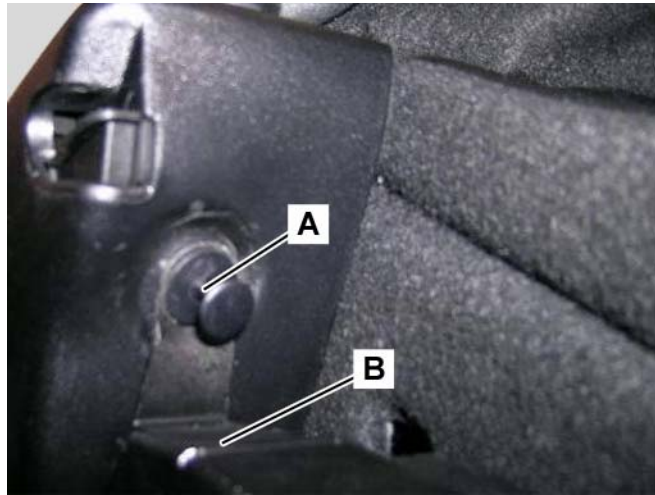

Figure 23
7. Fasten the SDARS bracket (B, Figure 23) with the removed expanding rivet (A, Figure 23).